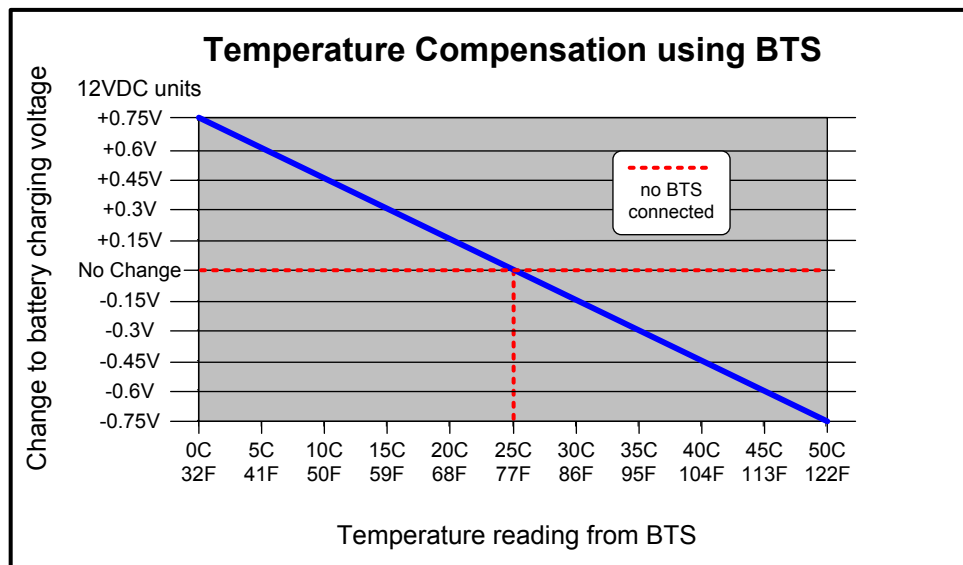

Figure 3-2, BTS Temperature to Charge Voltage Change
The multi-stage charger can use up to five different charging stages to help monitor and keep the batteries healthy. The five stages include an automatic 4-stage charging process (Bulk, Absorb, Float, and Full Charge), and a manual Equalization (EQ) charge stage. The automatic 4-stage charge process provides complete recharging and monitoring of the batteries without damage due to overcharging (see Figure 3-2). The Equalization stage (requires the ME-RC50 remote) stirs up stratified electrolyte and reverses any battery plate sulfation that might have occurred.